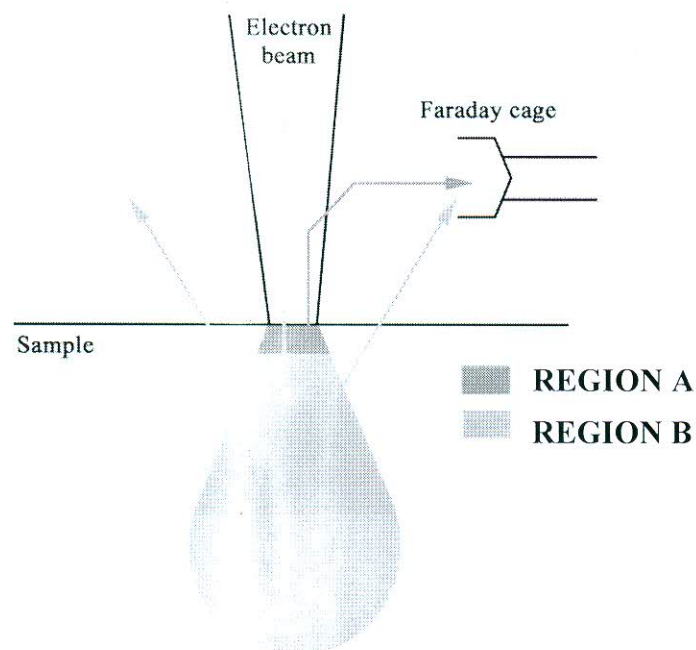

Figure 2 - Imaging mode of SEM
- [b] Explain the most commonly used SEM imaging modes using electron at region A and B shown in Figure 2.